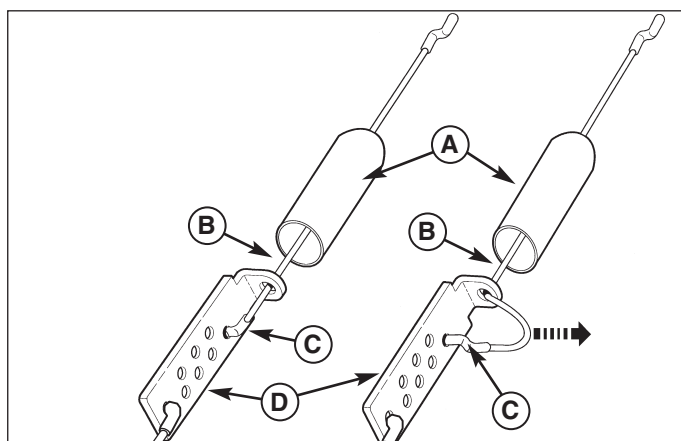

Figure 18. Traction Drive Cable Adjustment
1. Remove the z-hook (C, Figure 18) from the auger drive lever (A).
3. Pull the auger control cable (B) through the eyehole in the cable adjustment bracket (D) as shown by the arrow in Figure 18. This will create enough slack to allow the “Z” hook to be easily removed.
4. Install the “Z” hook (C) into the next available adjustment hole in the cable adjustment bracket (D). This is the adjustment hole located one notch down from where the “Z” hook (C) was previously attached.
5. Pull the auger control cable (B) back through the eyehole of the cable adjustment bracket (D) until all the slack is taken out of the auger control cable (B).
6. Slide the cable boot (A) back down over the cable adjustment bracket(D).
7. Install the “Z” hook (B, Figure 18) to the auger drive lever (A).